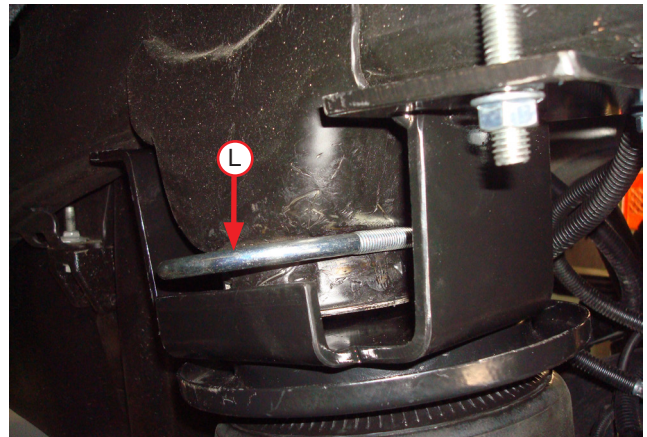
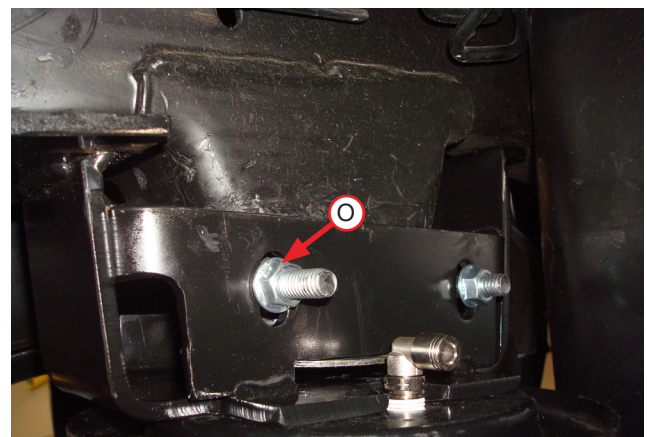

Fig. 21
Fig. 22
8. Install the 3/8" serrated lock nuts (O) onto the U-bolt and leave both sides loose at this time.
9. Install the U-bolt (L) from the outside of the frame, over the jounce bumper mounting cup and through the upper bracket on the inside of the frame. Attach the U-bolt with the 3/8" serrated flange nuts (O) and leave loose at this time (Fig. 21 & Fig. 22).